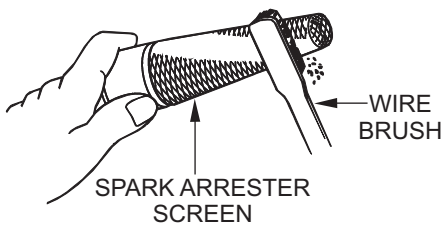

Figure 44. Cleaning Spark Arrester
2. Carefully remove carbon deposits from the spark arrester screen (Figure 44) with a wire brush.